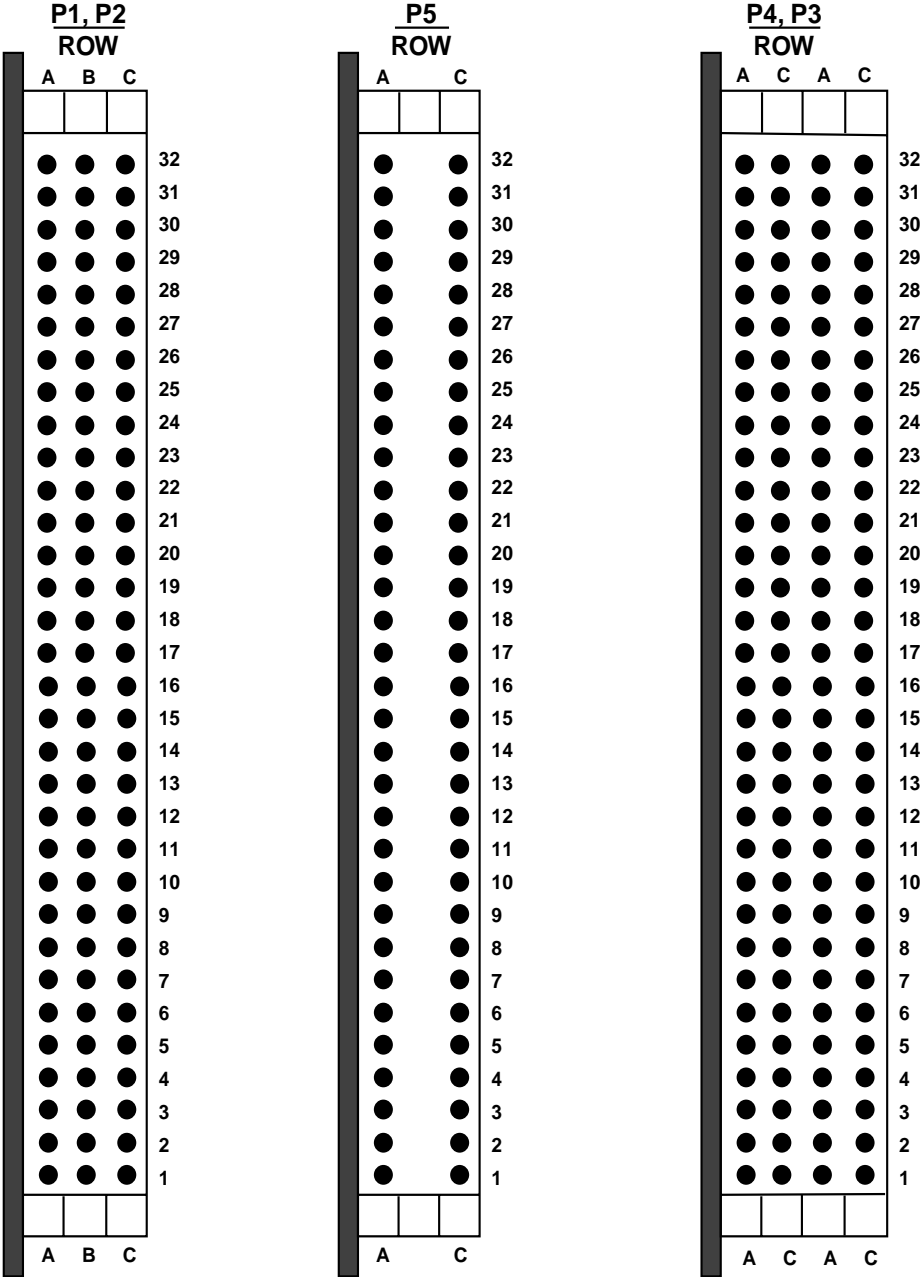

Figure 2-8 Connector Pin Configurations
1. Connect the voltage source between pins A7 (+) and C7 (-) of the P2 connector. See Table 2-8 below and Figure 2-8 on page 51.
Electrical connections to the VMIVME-3419 board are made through four DIN connectors P1, P2, P3/P4, and P5, which have the pin configurations shown in Figure 2-8 on page 51. Connector ordering information is shown in Table 2-9 on page 52. P1 and P2 are 96-pin connectors which supply +5 VDC power to the board from the VMEbus backplane, and which provide mechanical support for the rear of the board. No other VMEbus backplane functions are implemented, with the exception of Built-in-Test functions of the P2 connector.